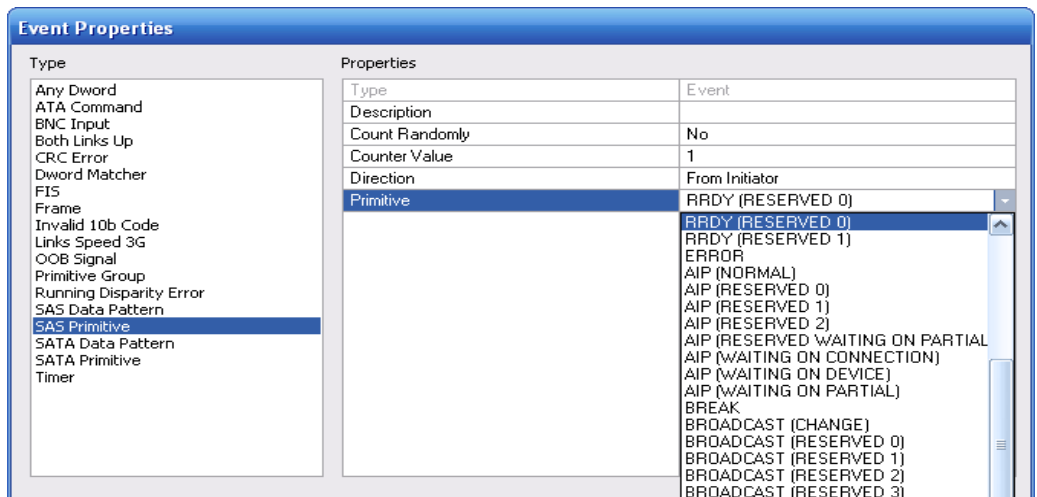

Figure 55 Example 3: Event Properties Dialog Box
Step 5 The Event Properties dialog box appears (Figure 55). Choose **RRDY (Reserved 0)** as the second primitive you want to monitor.